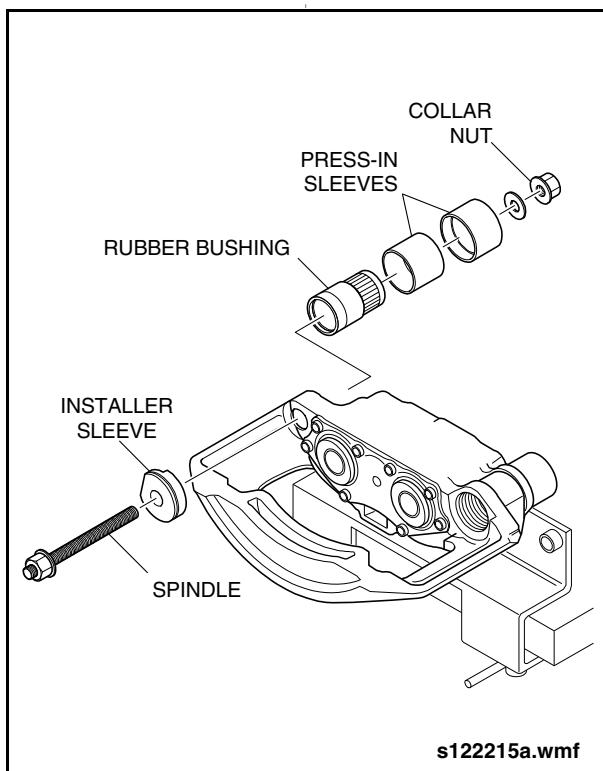

Fig. 2-127: Rubber Bushing Installation
- b. Position installation tool with rubber bushing on the brake caliper and mount with spindle and collar nut tools (Items 70, 71, 72, 75, & 77 from special tools list). See "Fig. 2-127: Rubber Bushing Installation" on page 114.